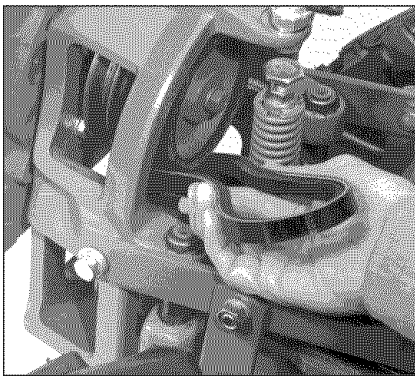

Figure 5-20: Shift into FORWARD and remove the belt.
6. Push the Wheels/Tines/PTO Drive Lever down into the **FORWARD** position. This increases the distance between the upper and lower pulleys. Next, lift and pull the entire belt out between the pulleys (Figure 5-20).
2. Squeeze the belt in the middle and insert one end in between the pulleys (Figure 5-20).